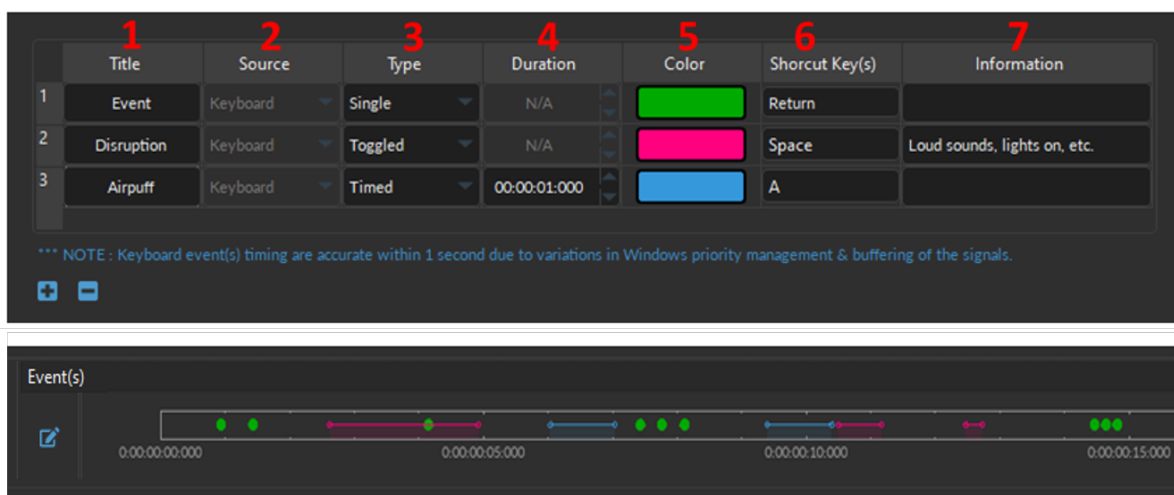

Figure 16.62: Channel(s) configuration window, Event(s) channel
The following are the configurable parameters of a **Keypress Event**, per Fig. 16.62:
1. The **Title** (Fig. 16.62, 1) allows you to give a name for the Keypress event.
2. The **Source** (Fig. 16.62, 2) is by default *Keyboard*. However, when a DIO channel was added to the configuration and set in *Input Mode*, it is possible to select this DIO as being the source of the created Event.
3. Three **Types** of Event(s) (Fig. 16.62, 3) can be specified with the drop-down list:
4. The **Duration** (Fig. 16.62, 4) is only used for the **Timed** Event type to specify the predetermined amount of time a Keypress Event will span. The duration is set in hh:mm:ss:zzz.
5. Select the **Color** field (Fig. 16.62, 5) to open the **Select Color** window. Basic colors are provided, in addition to custom colors that can be created and stored.
6. The **Shortcut Key(s)** (Fig. 16.62, 6) can be any keyboard key, including space bar, enter, backspace, any letters, number, and special characters (*, !, ? etc.). To specify the key, click inside the *Shortcut Key(s)* cell, then press the keyboard key of choice. If a key is properly set, it will appear in the *Shortcut Key(s)* cell (as in Fig. 16.62, column 6).
7. The **Information** column (Fig. 16.62, 7) provides space to make notes or write a short description of the Event.